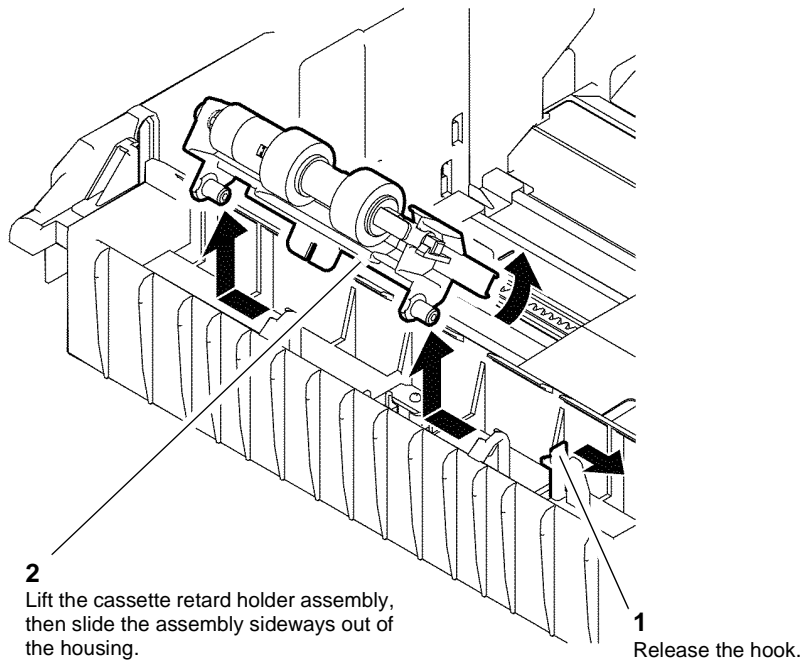

Figure 1 Cassette retard holder assembly
2. Remove the cassette retard holder assembly, Figure 1.